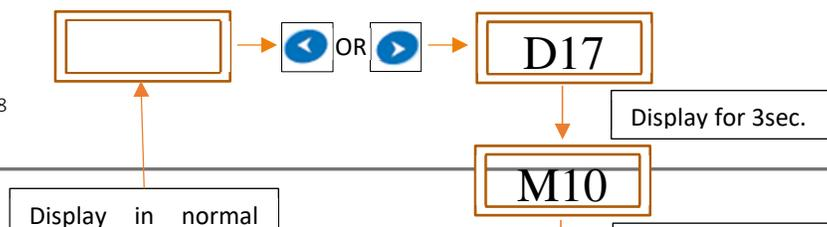

Figure 10 View current time
- Display shows only one status from these three (refer figure 10), as per the connection on the device. Also refer the below description for more understanding.